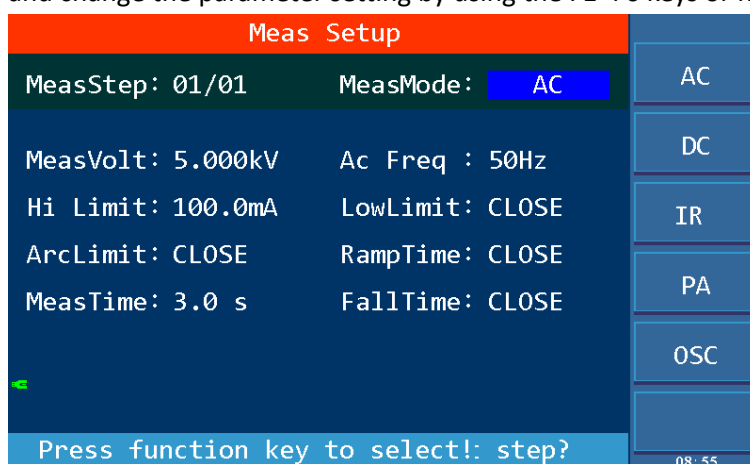

Figure 4-9 Meas Setup
1. Press \llbracket SETUP \rrbracket to enter the measurement setup interface shown in Figure 4-9.